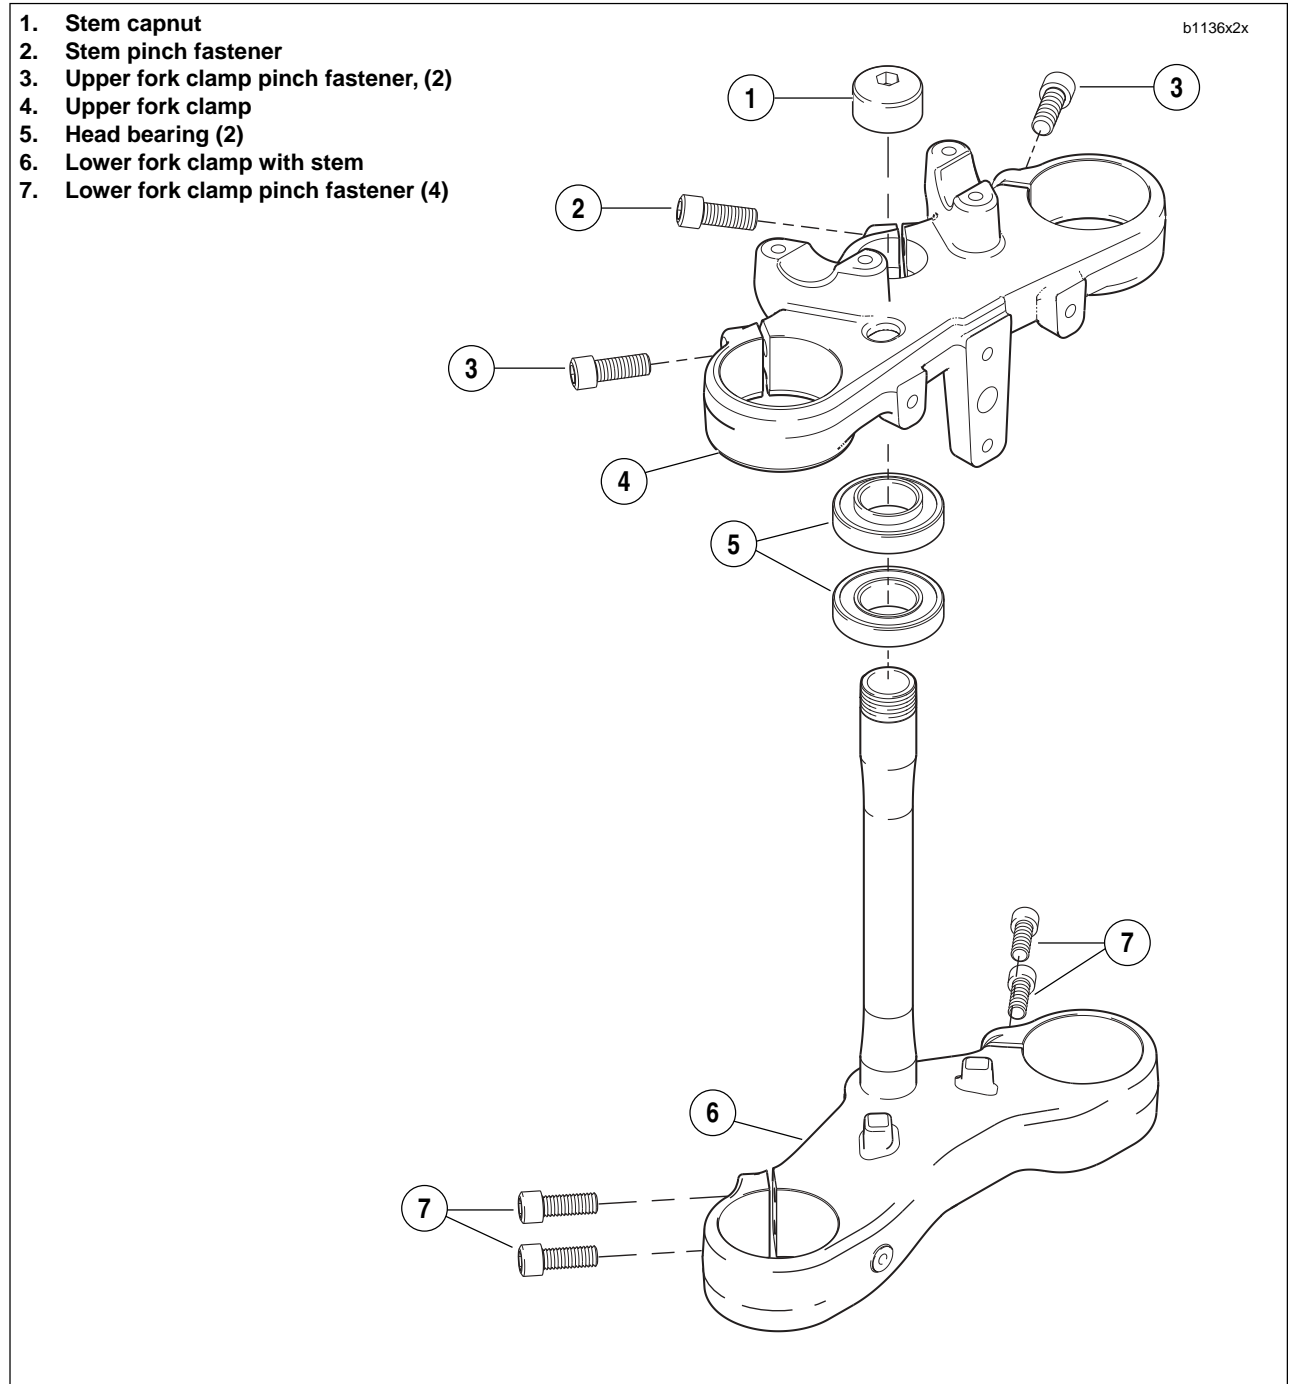

Figure 2-72. Steering Stem Assembly
5. See Figure 2-72. Remove steering stem pinch fastener (2).
6. See Figure 2-72. Hold or brace the lower fork clamp and remove steering stem capnut (1).
7. Remove the upper fork clamp (4).
8. Remove the lower fork clamp (6).
1. See Figure 2-72. Install the lower fork clamp (6) into the steering stem bore and install the upper fork clamp (4).
2. Install steering stem capnut (1). Tighten but do not torque.
- a. See Figure 2-72. Loosen steering stem pinch fastener (2) and upper and lower fork clamp pinch fasteners (3, 7).
- b. Brace wheel while removing steering stem capnut fastener (1).
- c. Remove upper fork clamp (4) and front-end assembly which includes front wheel, steering stem/lower fork clamp.
4. Remove upper and lower steering head bearings (5).